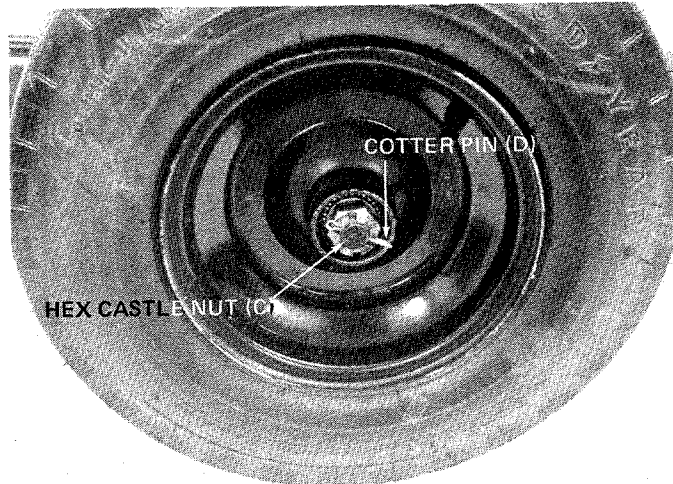

FIGURE 3
- Thread hex castle nut (C) on axle. Tighten castle nut until snug, back off approximately 1/3 turn or until one of the slots on the castle nut lines up with hole in axle. Secure castle nut to axle with cotter pin (D). See figure 3.